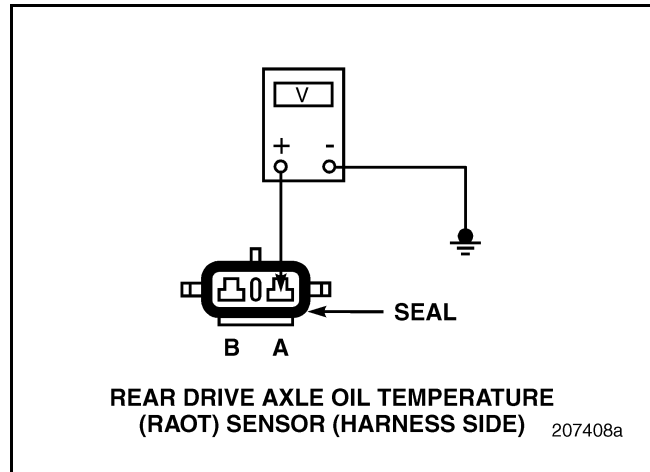

Figure 254
3. Measure the voltage between RAOT Sensor harness connector pin A and a good ground (see Figure 254).